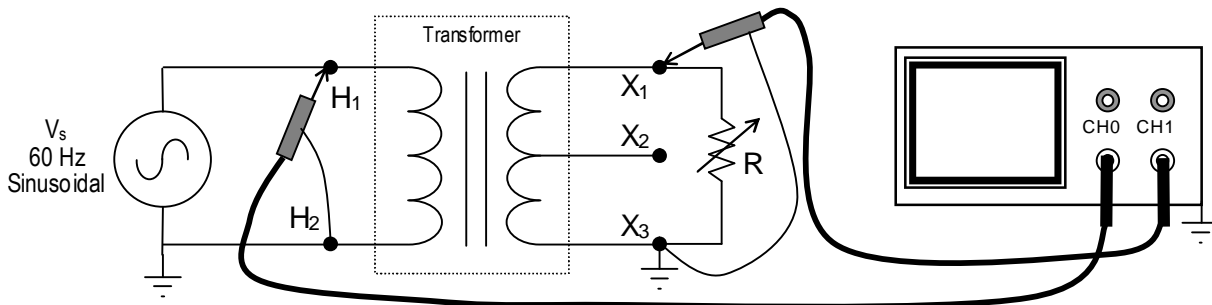

Figure 8.5
- Construct the circuit shown in Figure 8.5. Use a resistor substitution box for the resistor R , and initially set the value to 1000 Ω .
- Connect the NI-ELVIS oscilloscope across the transformer, as indicated in Figure 8.5: CHANNEL 0 across H_1 – H_2 ; and CHANNEL 1 across X_1 – X_3 .